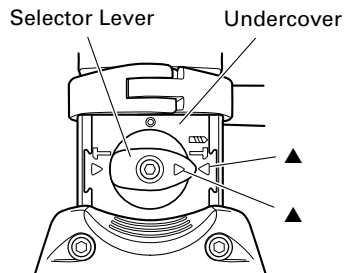

Fig. 6
(1) Switching to “rotation + hammering”
- (b) Align ▲ of the selector lever with ▲ on the  side of the undercover as illustrated in Fig. 6.